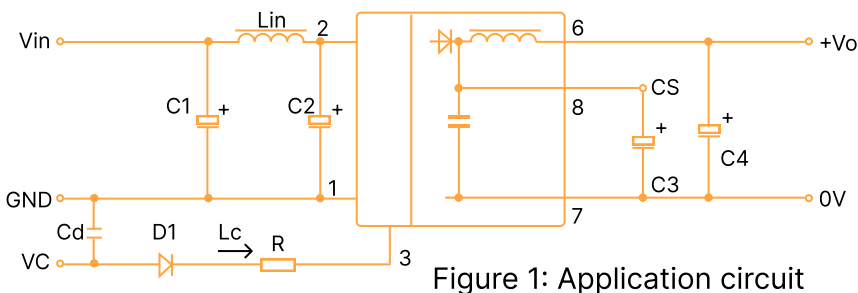

Figure 1: Application circuit
1. Typical application: If further reduction of input and output ripple is required, a capacitor Filter network can be connected at the input and output ends. The application circuit is shown in Figure 1. However, suitable Filter capacitors should be selected. If the capacitance is too large, it may cause overcurrent or poor startup of the power supply. For each output, while ensuring safe and reliable operation, the recommended capacitance load values are shown in Table 1.